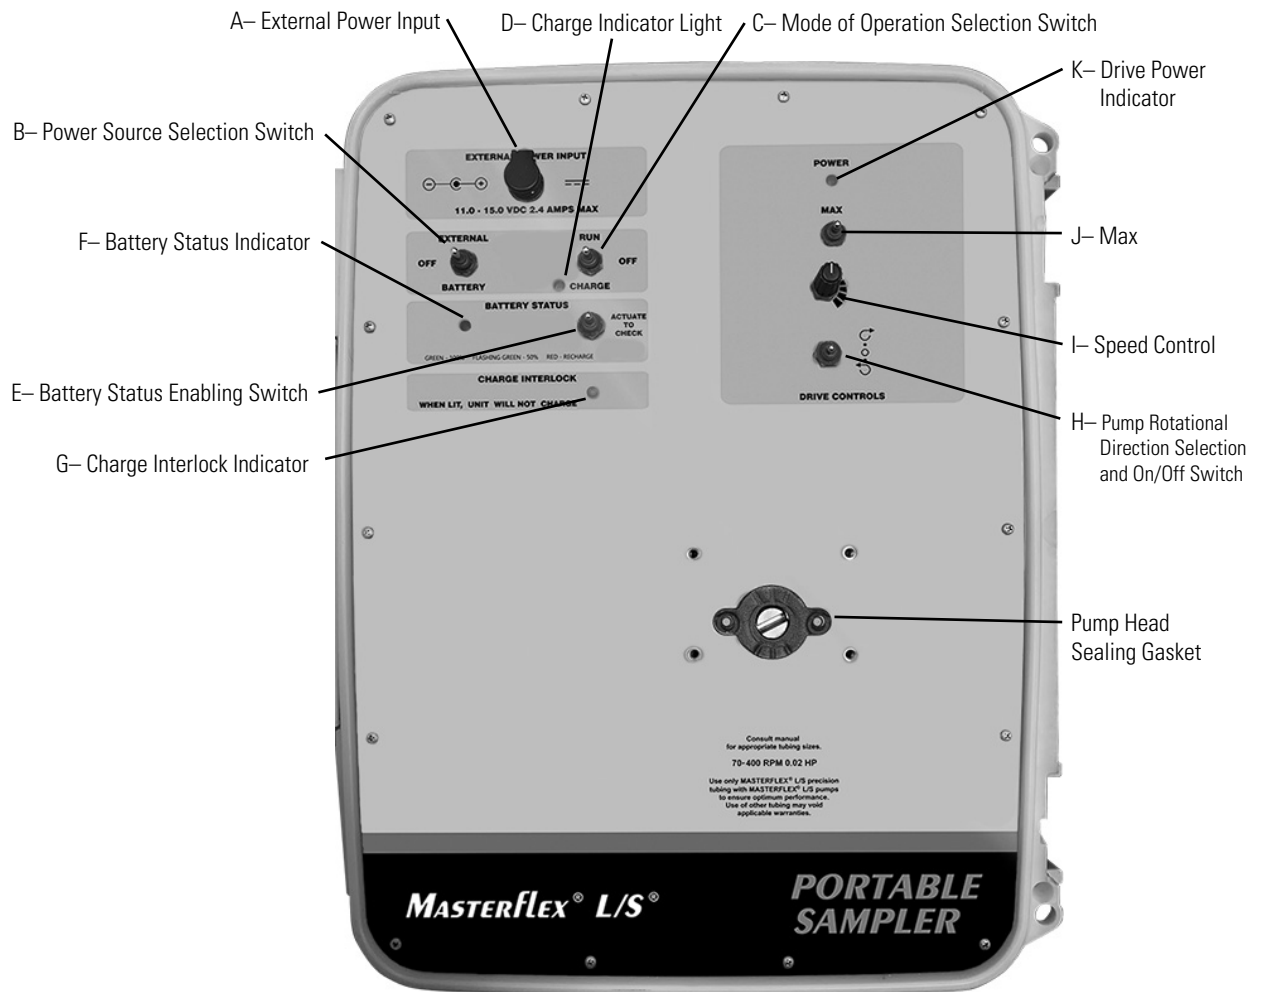

Figure 1- Control Panel
- A. **Connect the supplied AC/DC Power Supply/Converter to drive** by lifting **EXTERNAL POWER INPUT (A)** receptacle cover and inserting the 2.5 mm coaxial power jack into the receptacle. (See Figure 1.)
- C. **Select Pump Rotational Direction Selection On/Off Switch (H)**, CW or CCW. (See Figure 1.) (When changing directions, turn off the power first, which is the center or OFF position of the Rotational Direction Switch.)
- D. **Adjust pump flow rate** with the 1-turn **Speed Control (I)**, by turning the knob CW to increase flow rate or CCW to decrease flow rate.
- E. To **“Prime the Tubing”**, toggle the **“MAX” Switch (J)**, up or down to make the pump run at maximum speed.
- A. **Place the Power Source Selection Switch (B), (EXTERNAL/BATTERY)** to the **“BATTERY”** position.
- B. **Place the Mode of Operation Selection Switch (C), (RUN/CHARGE)** to the **“RUN”** position.
- A. **Place the Power Source Selection Switch (B), (EXTERNAL/BATTERY)** to the **“EXTERNAL”** position.
- A. **Connect the supplied AC/DC Power Supply/Converter to drive** by lifting the **EXTERNAL POWER INPUT (A)**, receptacle cover and inserting the 2.5 mm coaxial power jack into the receptacle. (See Figure 1.)
- B. **Connect AC/DC Power Supply/Converter to an AC power source. Place the Power Source Selection Switch (B), (EXTERNAL/BATTERY) to the "EXTERNAL" position.**
- C. **Place the Mode of Operation Selection Switch (C) (CHARGE/RUN) to the "RUN" position.**
- D. **Select Pump Rotational Direction Selection On/Off Switch (H), CW or CCW.** (See Figure 1.) (When changing directions, turn off the power first, which is the center or OFF position of the Rotational Direction Switch.)
- E. **Adjust pump flow rate** with the 1-turn **Speed Control (I)**, by turning the knob CW to increase flow rate or CCW to decrease flow rate.
- F. To **"Prime the Tubing"**, toggle the **"MAX" Switch (J)**, up or down and hold to make the pump run at maximum speed.
- A. **Connect the supplied AC/DC Power Supply/Converter** by lifting the **EXTERNAL POWER INPUT (A)**, receptacle cover and inserting the 2.5 mm coaxial power jack into the receptacle. (See Figure 1.)
- C. **Place the Mode of Operation Selection Switch (C) (CHARGE/RUN)** to the **“CHARGE”** position.
- A. **Connect the** external power source by lifting the **EXTERNAL POWER INPUT (A)**, receptacle cover and inserting the 2.5 mm coaxial power jack into the receptacle. (See Figure 1.)
- C. **Place the Mode of Operation Selection Switch (C), (CHARGE/RUN)** to the “CHARGE” position.